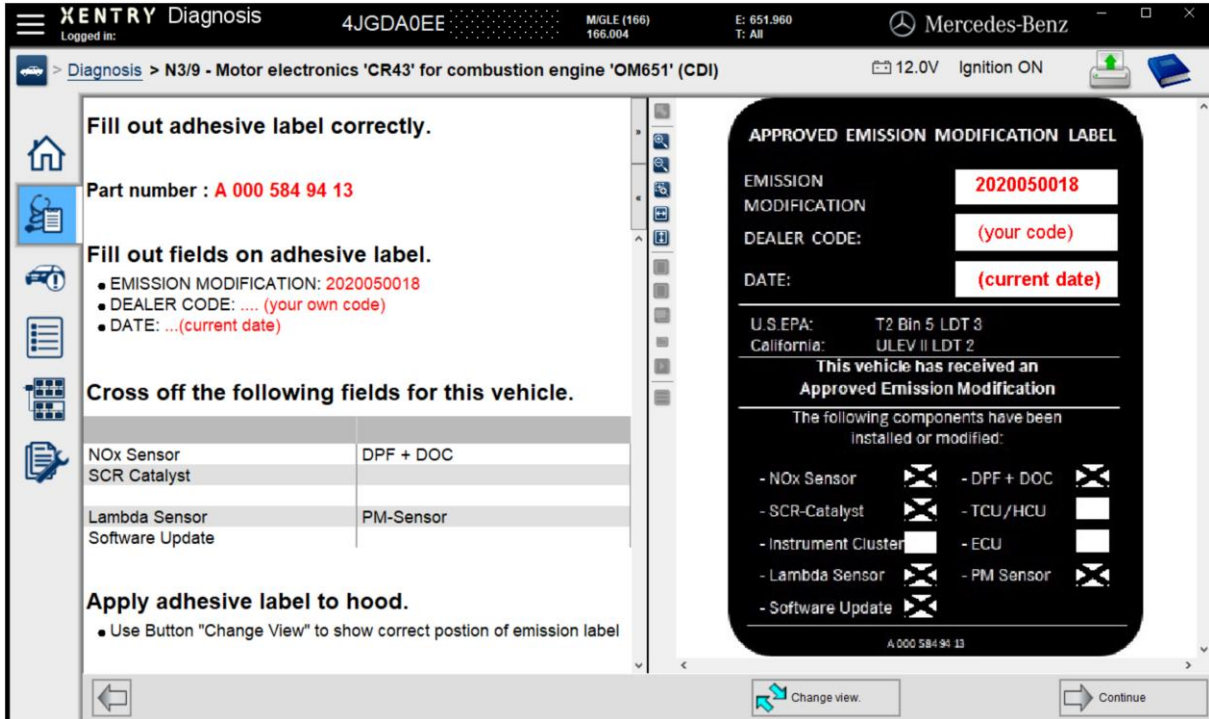

Figure 11
- i** The fields on the adhesive label must be filled out correctly. Please use black permanent marker. Refer to (**Figure 11**) within the Xentry procedure